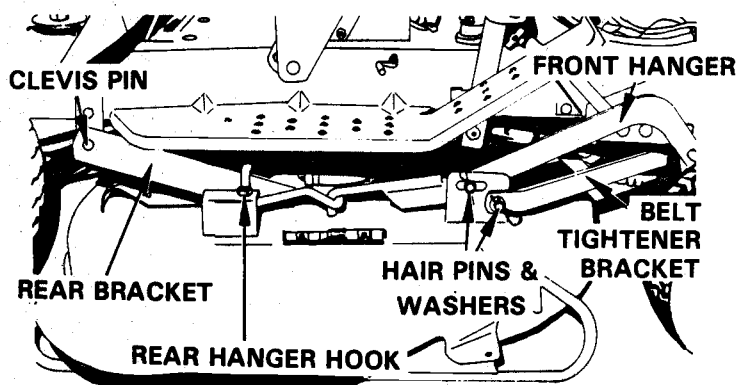

FIGURE 31
3. Lower the Attachment Lift Lever. Slide the pan back (while lifting the rear of the pan) so that the pan hanger hooks slide up on the rear hanger. Assemble the front hangers to the tabs on the mower pan, while, at the same time, assembling the front and back hangers. Secure with four washers and hairpin cotters. Connect the Belt Tightener Bracket to the pan. See Figure 31.
LEVEL ADJUSTMENT OF MOWER PAN — FIGURE 31
3. If adjustment is required, turn the hex nuts on the rear hanger hooks to move the hooks up or down to secure the proper adjustment. When the pan is leveled and hangs evenly, tighten the hex nuts. See Figure 31.